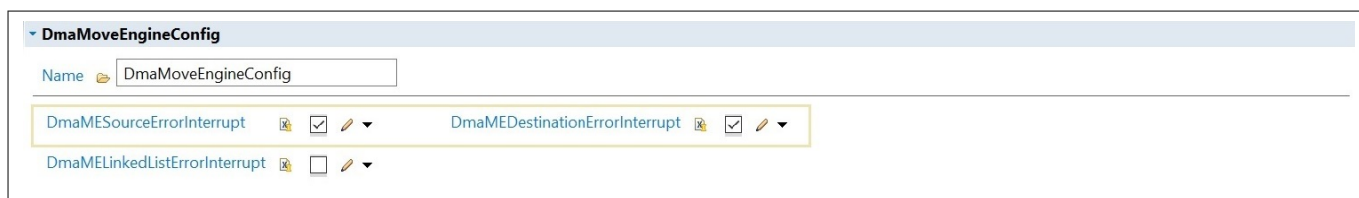

Figure 5 Enable Move engine parameter
1. In the DMA, in the General configuration section, enable DmaMESourceErrorInterrupt and DmaMEDestinationErrorInterrupt for receiving the move engine errors as show in Figure 5. Enable other configuration items as required by the application.